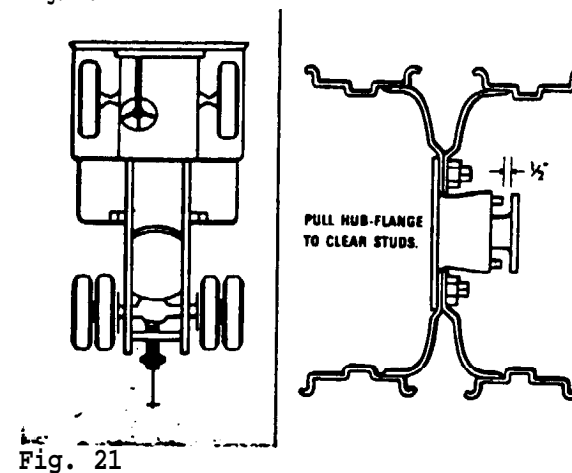

Fig. 21
- (A) With the jack located securely under the differential housing, jack up the rear wheels approximately 1 1/2 inches. See Fig. 21.
- (B) Disconnect the wheel from the axle-drive by removing the hub-flange nuts or screws. Pull the hub-flange out to clear the studs by at least 1/2 inch. See Fig. 21.